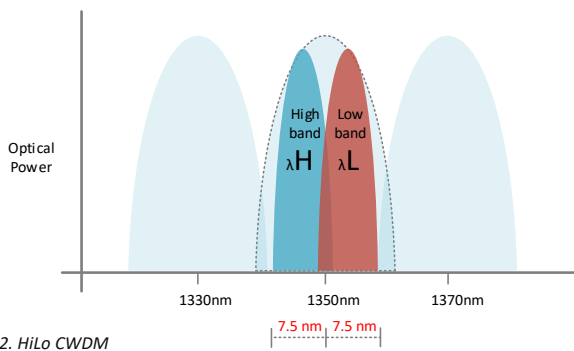

Fig 2. HiLo CWDM
**Figure 2.** Barnfind HiLo SFPs are designed to meet a need for higher density of signals in one single fiber. By using half of the spacing in each wavelength, *HiLo SFPs can double the capacity of the traditional CWDM bi-directional transmission.*